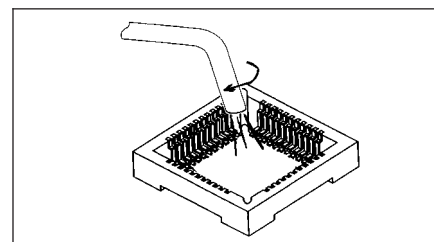

Figure 2 Melt Solder
6. Position tip approximately 0.5 cm away from inside area of socket. Rotate hot air pencil in a circular motion around lands until complete solder melt is observed. (See Figure 2.)